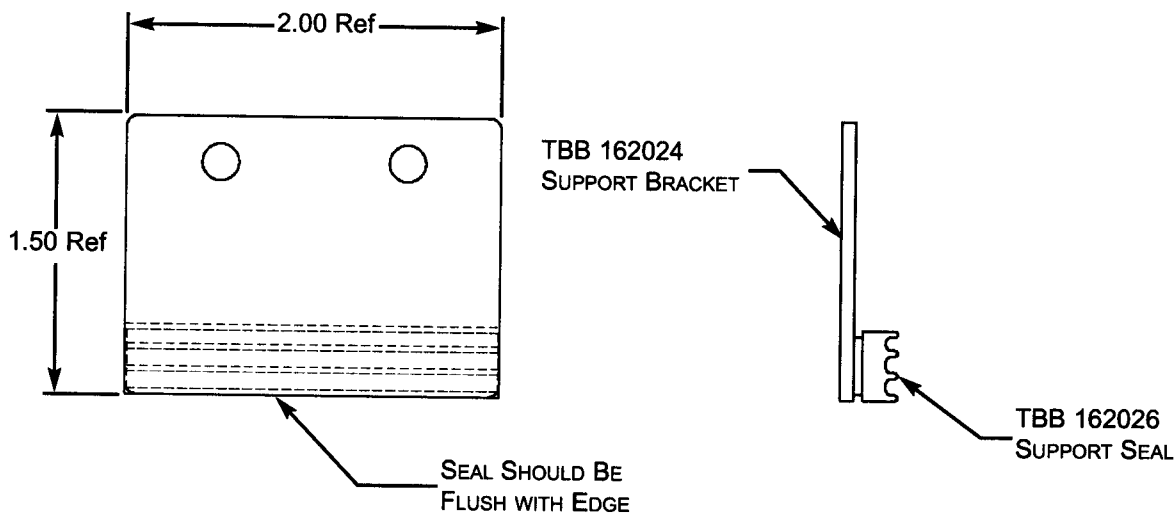

Figure 1
1. Remove the adhesive backing from the Support Seal, TBB 162026 and assemble to the Support Bracket, TBB 162024 as shown in **Figure 1**. Repeat this step to create 16 Support Assemblies for the entrance door glass.